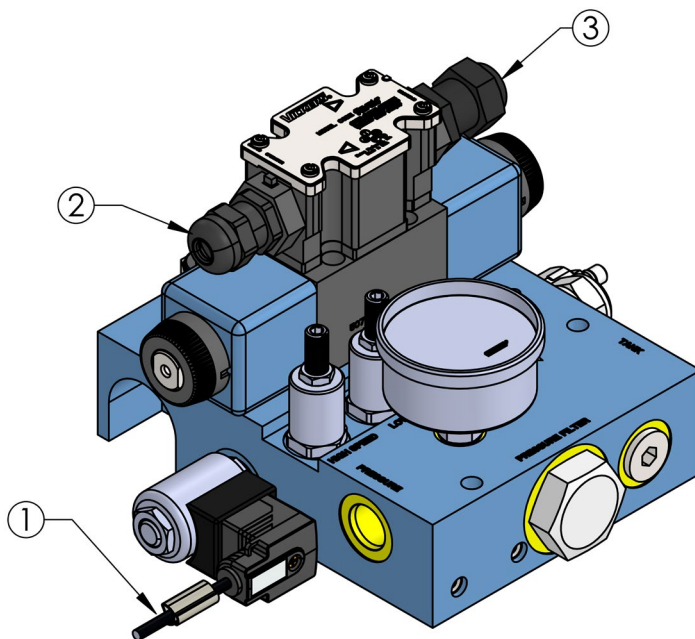
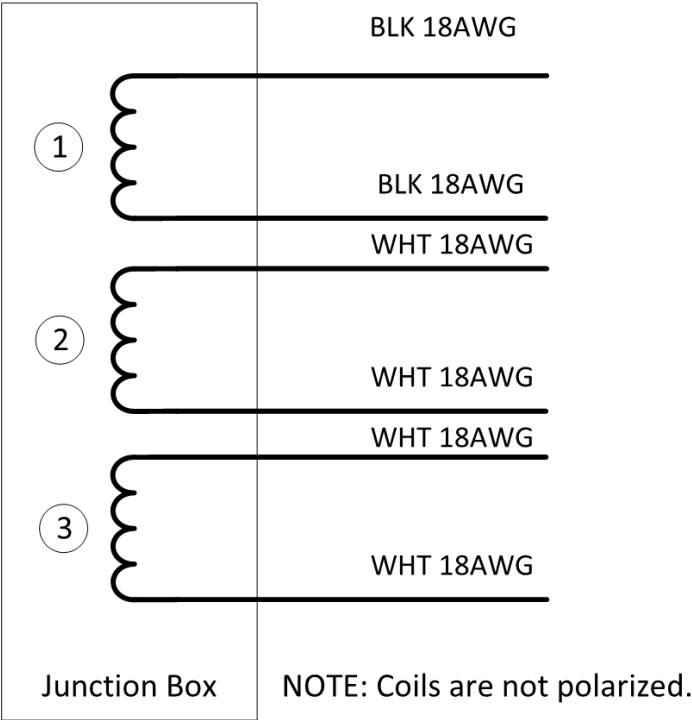

Figure 4: Electrical Connection Locations
Figure 5: HM450 Electrical Wiring Diagram
The (3) three locations of the solenoid connection wires are shown in Figure 4 above. The corresponding wiring Pair #, wiring size, colour, and arrangement is defined in Table 2 and Figure 5.